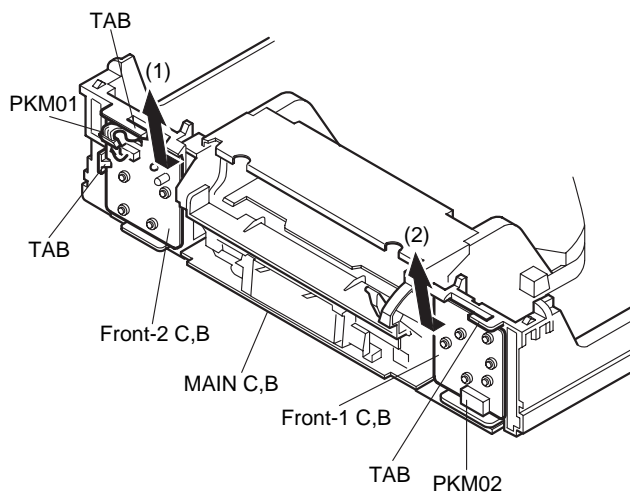

Fig. 2
3. Front-1 C.B. and Front-2 C.B. Removal (see Fig. 2)